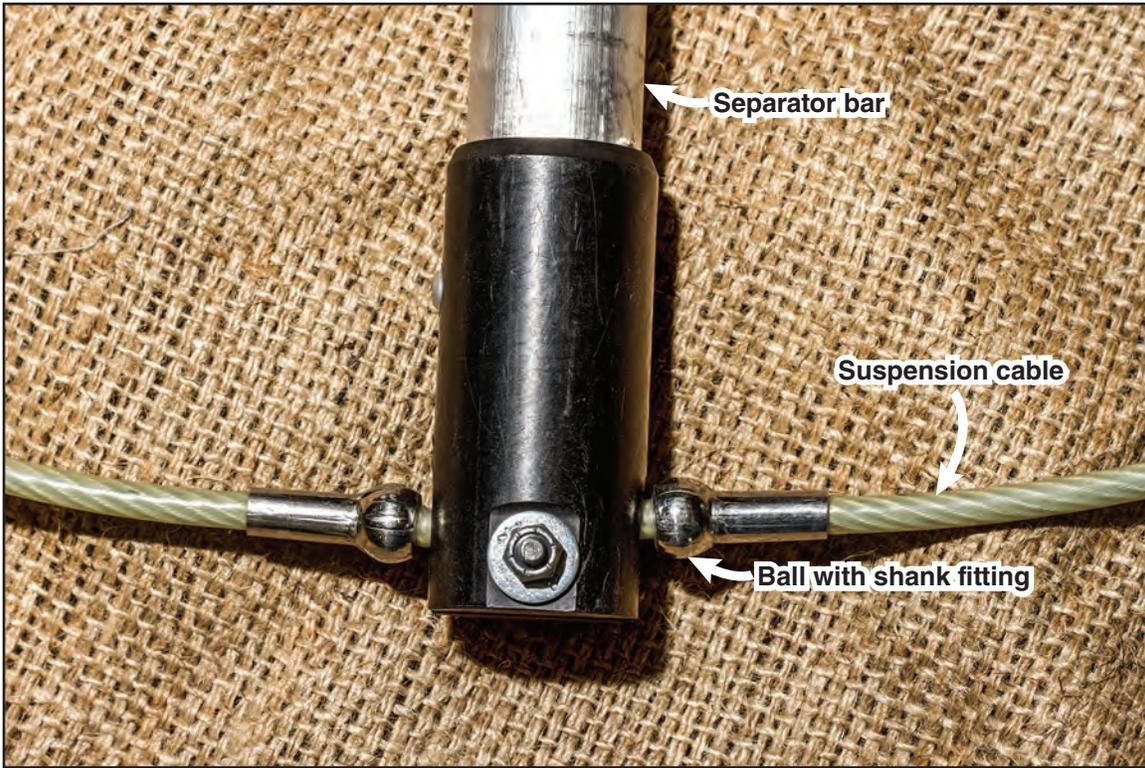

Figure 23—The separator bars are held in place by ball with shank fittings and a bolt at the end of the bar.
- Inspect the separator bars for damage and ensure that the ball with shank fittings and end bolts are secure (figure 23).